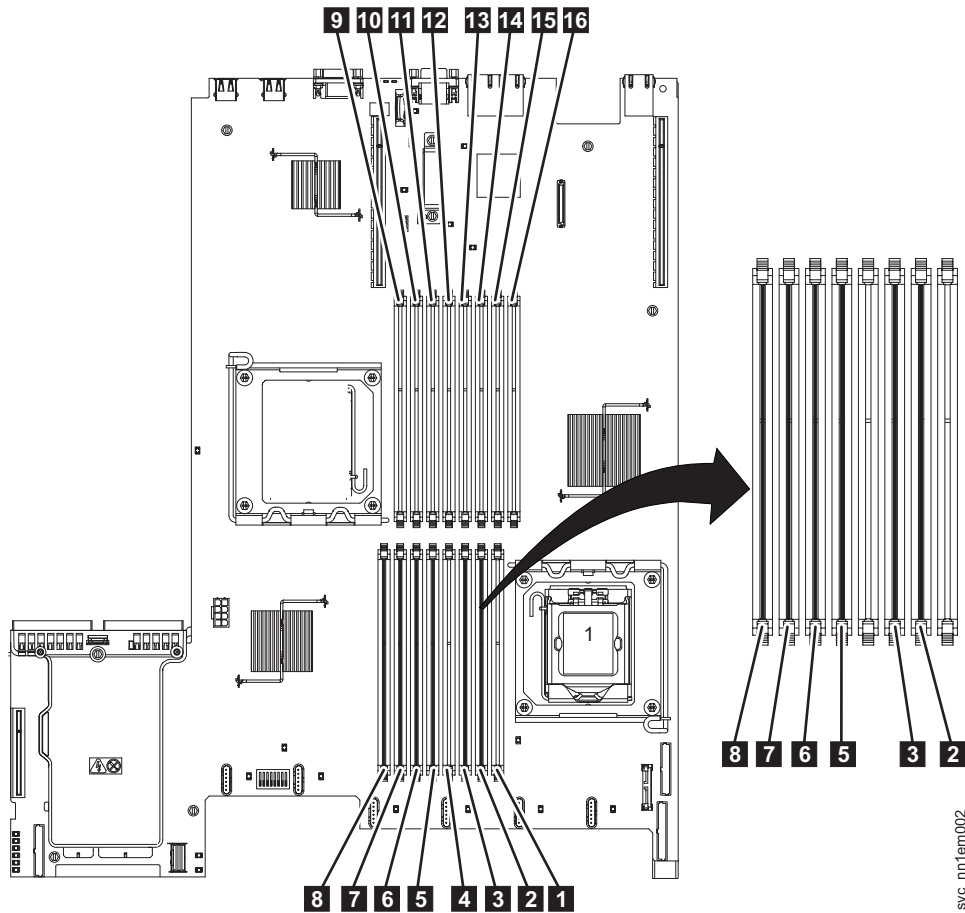

Figure 91. Locating the SAN Volume Controller 2145-CF8 memory modules
- SAN Volume Controller 2145-CF8: The SAN Volume Controller 2145-CF8 node uses six modules in DIMM slots **2**, **3**, **5**, **6**, **7**, and **8**, as shown in Figure 91.